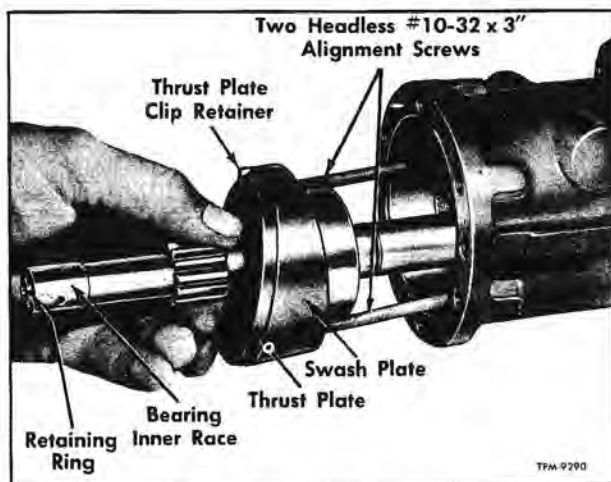

Figure 56—Installing Motor Shaft Assembly
1. Press bearing assembly (12) on shaft against snap ring (13).
2. Referring to figure 56, position swash plate (14) and thrust plate (15) over shaft spline and assemble clip retainer (6) as shown.
3. Cut off heads of two No. 10-32 x 3 inch screws and install into screw holes on back side of swash plate as shown in figure 56. These screws will serve as guide pins to align mounting bolt holes and fluid passages.